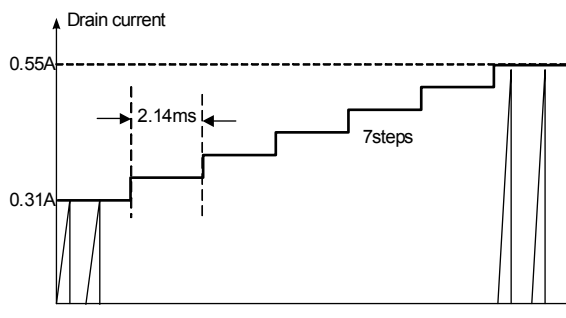

Figure 19. Internal Soft-Start
**5. Soft-Start:** The FPS has an internal soft-start circuit that slowly increases the feedback voltage, together with the SenseFET current, right after it starts. The typical soft-start time is 15ms, as shown in Figure 19, where progressive increment of the SenseFET current is allowed during the startup phase. Soft-start circuit progressively increases current limits to establish proper working conditions for transformers, inductors, capacitors, and switching devices. It also helps to prevent transformer saturation and reduces the stress on the secondary diode.